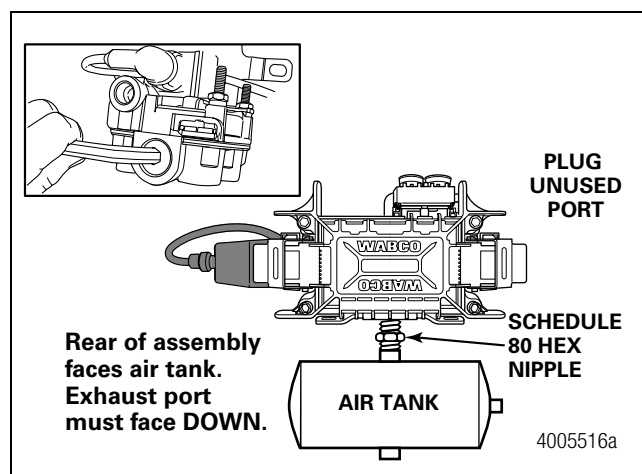

Figure 2
3. Rotate and tighten the ECU/single modulator valve assembly until the exhaust port faces DOWN and the connection is secure. Use a torque wrench or ratchet with an extension at the 3/4-inch pipe plug installed on the front supply port (Port 1). Figure 2.